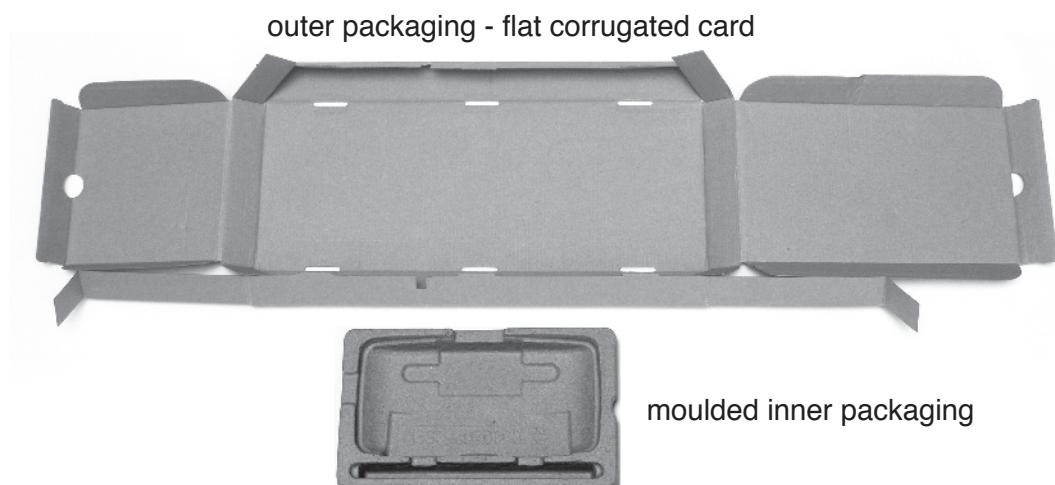

Fig. 5
- (b) Fig. 5 shows packaging for a delicate electronic device.